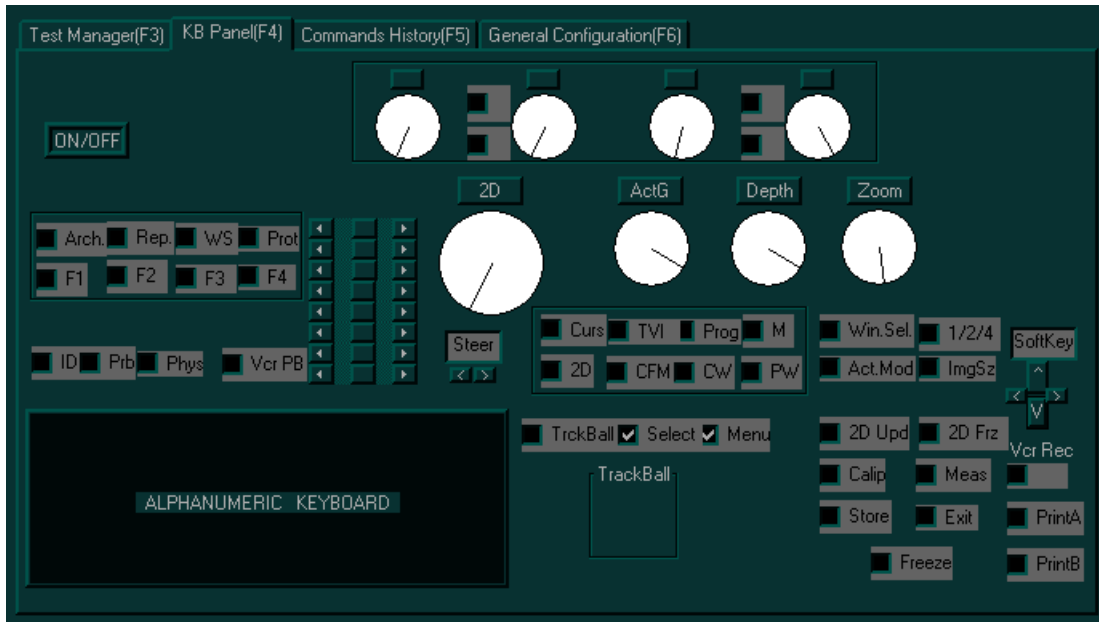

Figure 7-49 KB Panel Tab - Extended Keyboard Test Window
- 4) Trackball to the **KB Panel** tab and press **Select**. The **KB Panel** tab is displayed, as shown in Figure 7-49 on page 7-74.